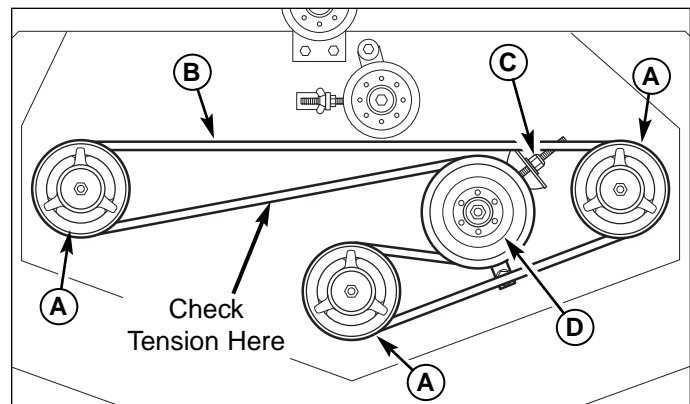

Figure 24. Spindle Drive Belt
2. Loosen the nylon nut (C, Figure 24) to release the belt tension on the spindle drive belt (B, Figure 24).
5. Install the spindle drive belt on the spindle pulleys and the idler pulley. Tighten the nylon nut (C, Figure 24) until a 10 lb. (44.5 newton) force is required to deflect the belt 1/2" (1,27cm) between the idler pulley and right-hand spindle pulley. See Figure 24.